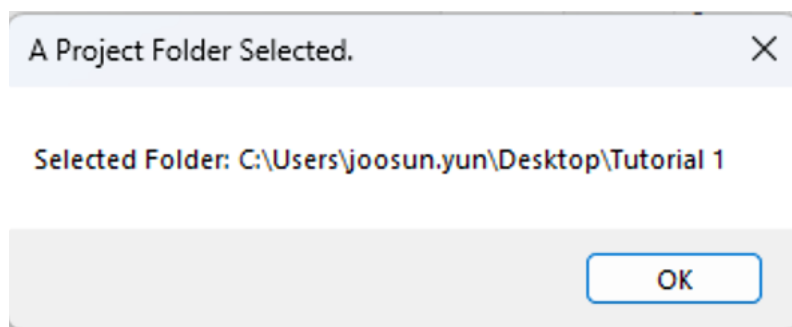

Figure 6. Confirmation message box after a project folder is selected.
5. Once the folder is selected, a message box like Figure 6 appears. Click **OK** on the message box.